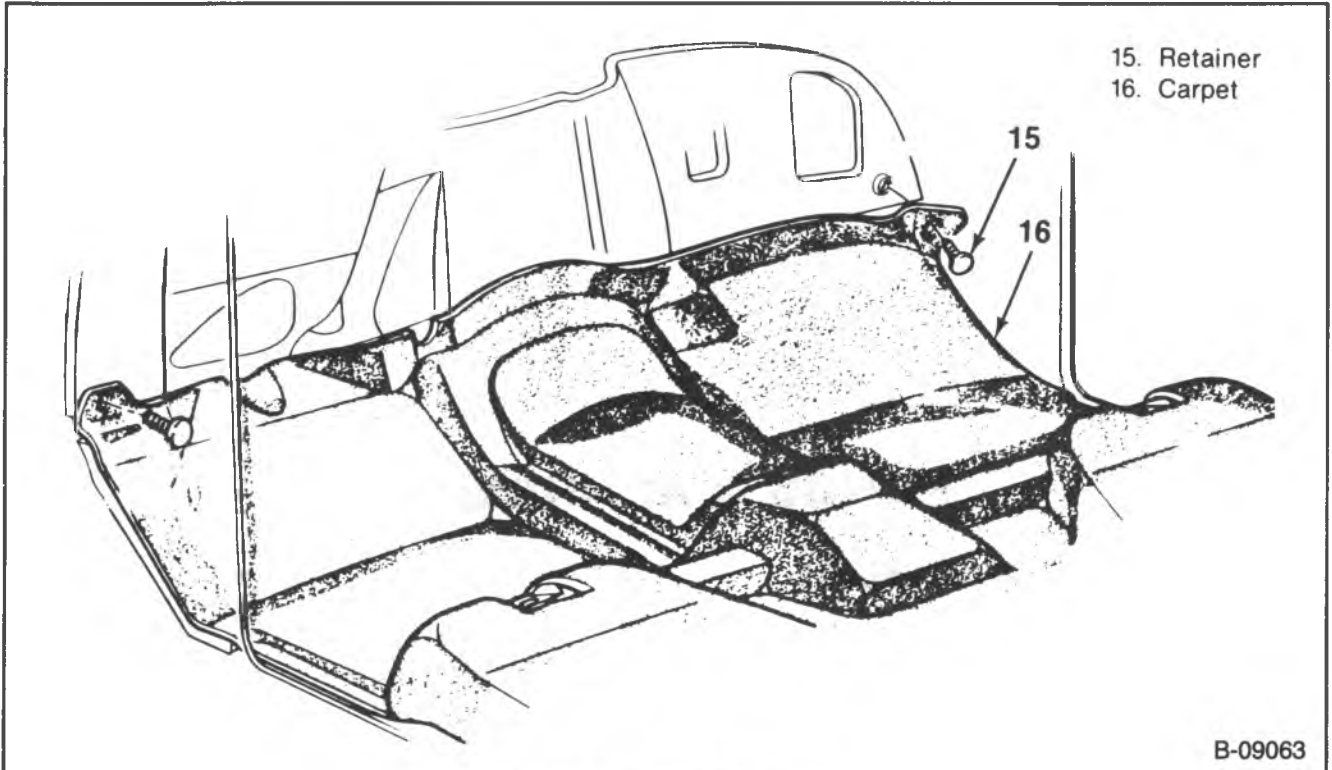

Figure 7 — Carpet Retainers
7. Dash panel retainers (figure 7).
8. Lock pillar garnish molding screws (41) and the molding (42).
9. Carpet to floor panel bolts (28) (if equipped).
1. Carpet (29) to the vehicle.
2. Carpet to floor panel bolts (28) (if equipped).
3. Lock pillar garnish molding (42) and the screws (41).
4. Dash panel retainers (figure 7).
4. Side trim carpet panel screws (45) and the panel (46).
5. Side trim panel screws (47) and the panel (48).
6. Floor panel trim plate screws (49) and the trim plate (50).
7. Rear scuff plate screws (51) and the plate (52).
8. Dash panel retainers (figure 7).
1. Carpet (161) to the vehicle.
2. Dash panel retainers (figure 7).
3. Rear scuff plate (52) and screws (51).
4. Floor panel trim plate (50) and screws (49).
5. Side trim panel (48) and screws (47).
6. Side trim carpet panel (46) and screws (45).